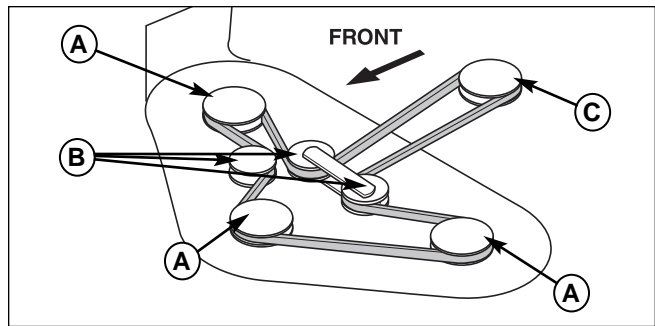

Figure 17. Mower Belt Routing
6. Remove the belt from the PTO pulley (C, Figure 17)
6. Install the roller bar connecting rod (M) and the hair pin.
7. Lift the front of the deck using a 2 x 4 as a lever, pull the handle (G) to align the front hanger rod ends (H) with the slots and secure with the front rod locks (A & B).
8. Install the belt as shown in Figure 17. Make sure that the V-side of the belt runs in the pulley grooves of the spindle pulleys.